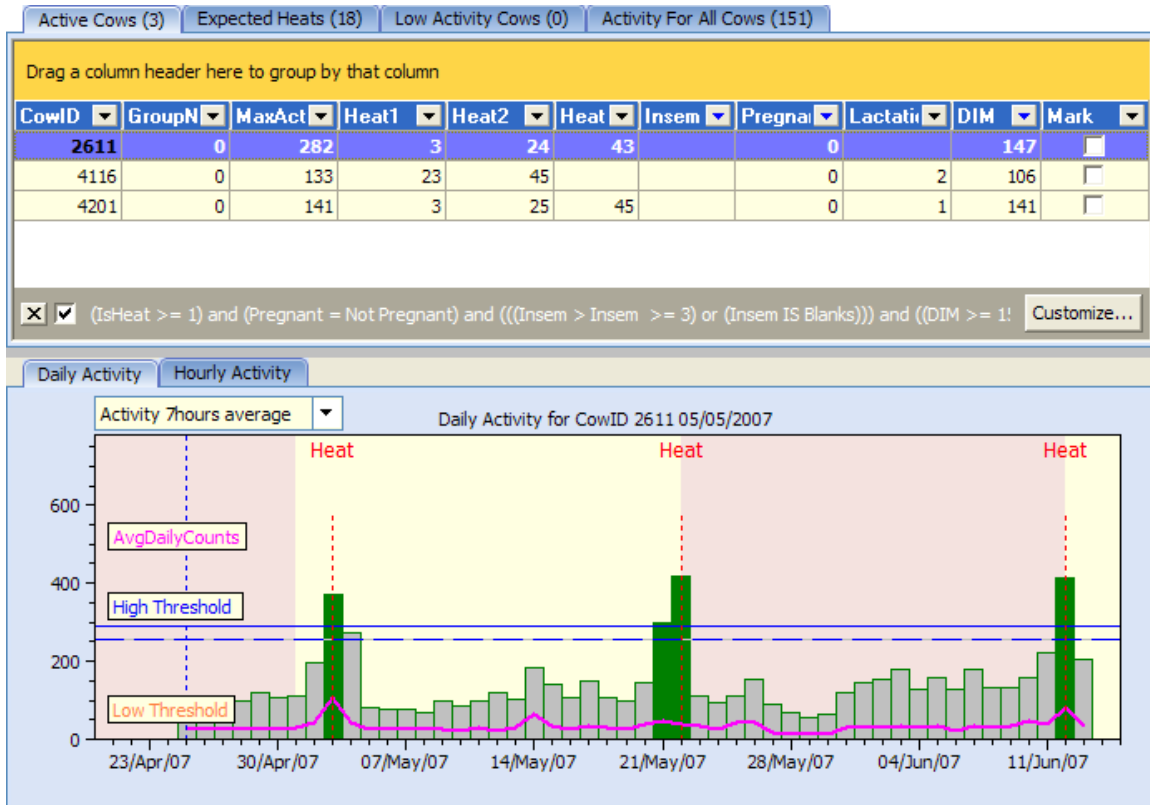

Figure 8 Active Cows Tab.
On the top half of Figure 8 on the next page, the 'Active Cows (3)' tab, i.e cows detected as being in heat, is displayed by default. The number (3) denotes that there are 3 active cows. The various record details are displayed in the grid. In the example shown in Figure 8, the record for CowID
The top grid in Figure 8 displays a number of columns: